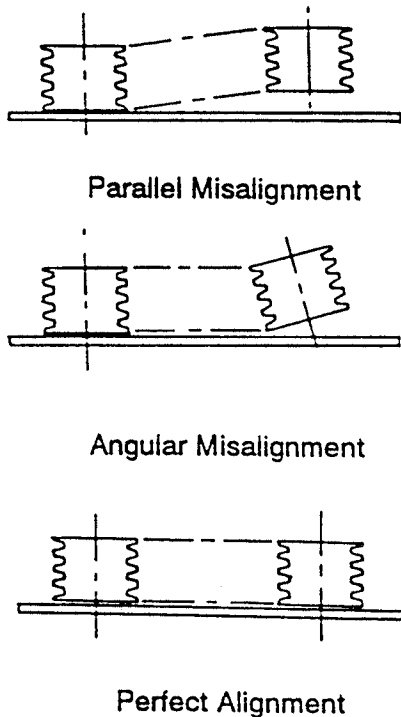

Fig. 3. V-belt drive alignment.
1. Sheave Alignment - Alignment must be maintained for full power transmission, minimum vibration, and long drive life. A dial indicator can be used to check runout on the periphery and face of each sheave. A straight edge can be used to check the alignment of the pump and drive sheaves in the vertical direction. See Fig. 3 page 7.